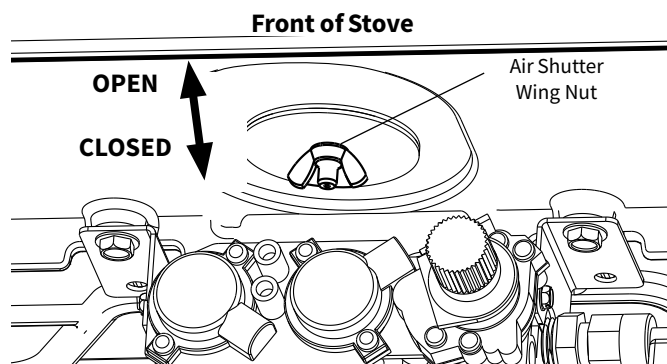

Figure 7.1. The Air Shutter stem is accessed from within the controls compartment.
3. Open the Controls Compartment Door under the firebox. Loosen the Air Shutter wing nut and push it back far as it will travel. See fig. 7.1.
14. Adjust the Air Shutter. Fig. 7.1.